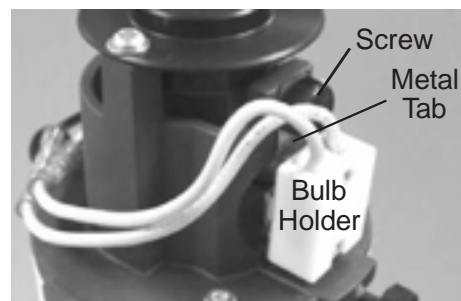

Figure 30 Securing Screw
3. Unscrew the Screw securing the Metal Tab holding the Bulb Holder in place. Refer to Figure 30.